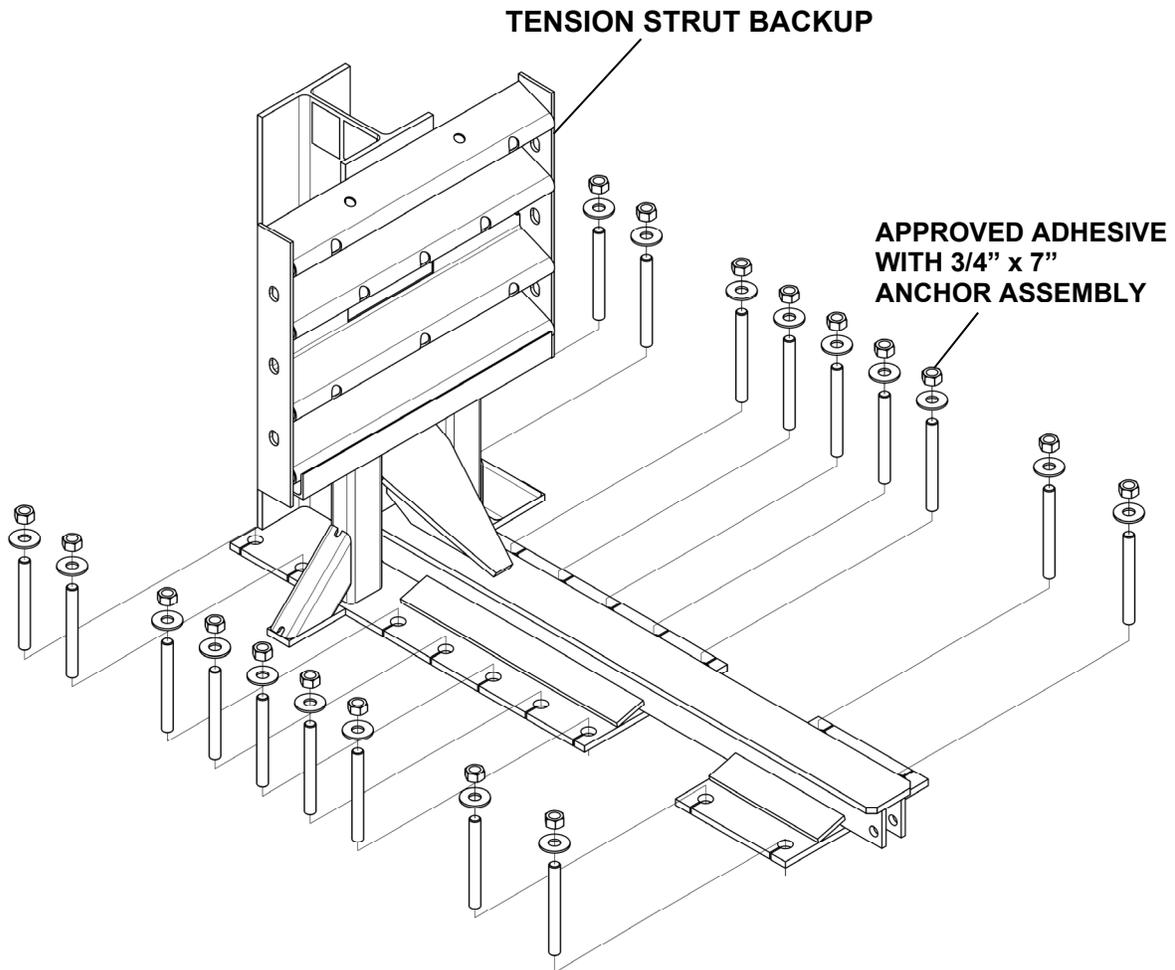
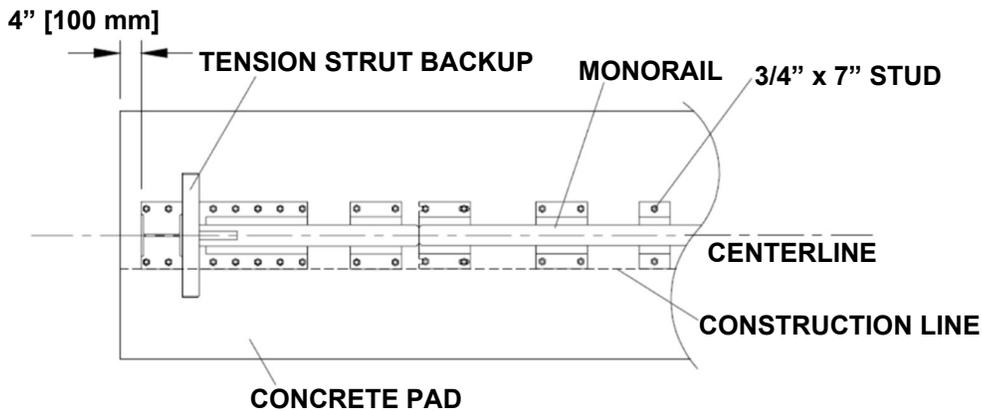

Figure 17
Figure 19
See Figure 17 (showing Backup Assembly) and Figure 19 (showing Monorail deployment). Also refer to the drawing package and the approved anchoring instructions (p. 20).
Step 1. Tension Strut Backup Assembly (Figure 17)
Locate the Backup and Monorail on the pad with the side of the Monorail on the construction line (Figure 19). Verify that applicable Transition Panels fit properly before anchoring the Backup. Drill 5 3/4" [146 mm] deep anchor holes in the pad using the Backup as a template. Do not drill through pad. Anchor the Backup to the concrete pad using approved adhesive kits (p. 20).
Locate the Monorail on the construction line as shown in the Monorail Assembly drawings. Drill 5 3/4" [146 mm] deep anchor holes using the Monorail as a template (Figure 19). Do not drill through the pad. Anchor each Monorail section using the provided approved adhesive kits.